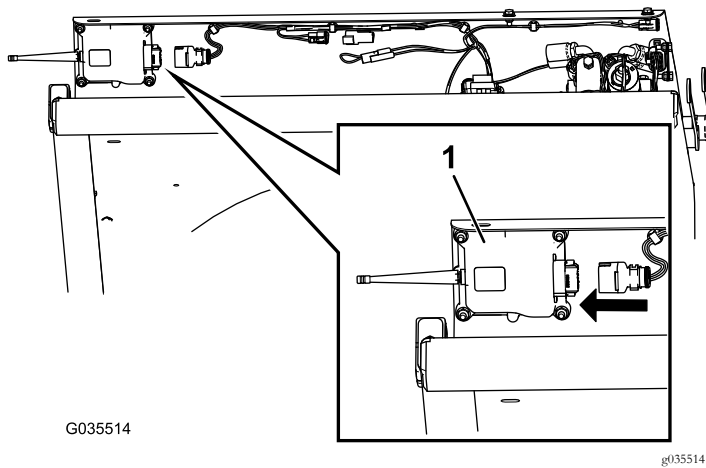

Figure 12
1. Locate the RF2CAN controller end of the wire harness and plug it into the RF2CAN controller (Figure 12).